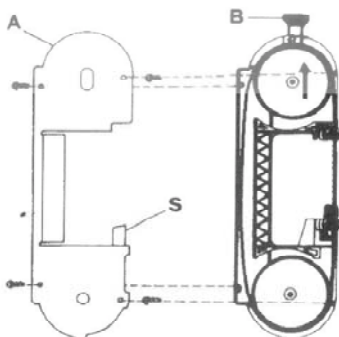

Fig.1
1. Adjusting the blade tension (Fig.1)
- Slacken the blade tension, turning knob C (fig. 1) clockwise until it stops, and handwheel B anticlockwise.
- Replace protective casing A, being careful to insert the blade between the straps of the protection S (see fig.1)